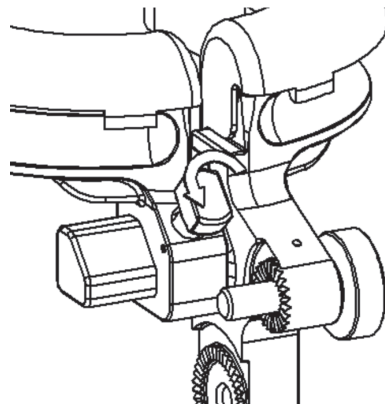

Figure 9
1. Turn the Adjustment Knob counterclockwise until the Slide Horseshoe Faceplate can slide freely (Figure 9).